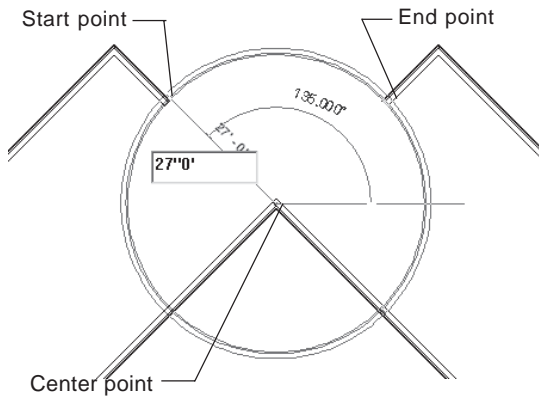

Figure 3-46 Starting the curved wall segment
- g. Use the **Arc from center and end points** sketching option to create the curved wall, refer to Figures 3-46 and 3-47.
the curved wall, as shown in Figure 3-46. The curved wall with the specified radius is started from the specified point.